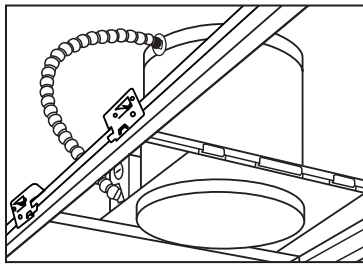

Figure 7
Step 3. Place fixture into position and snap bar hanger foot with integral T-bar clips onto T-bars (Fig. 7). Additional holes provided for securing with wire or screws (Fig. 7).